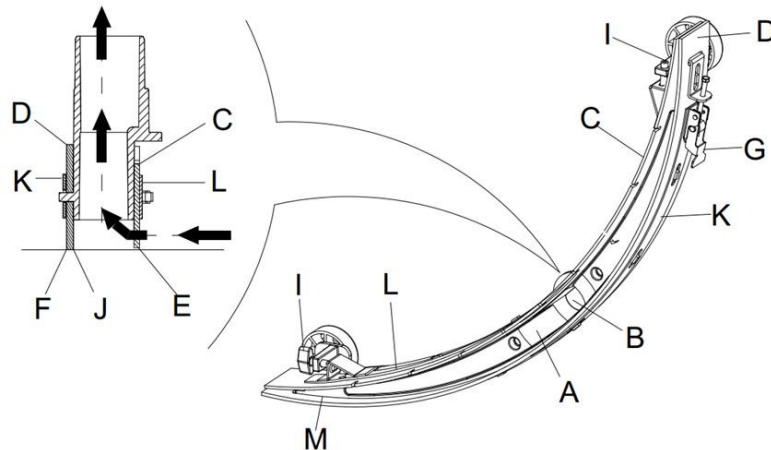

Figure 10
2. Press the power switch (38) to the “O” position to turn off the machine.
3. Unscrew the squeegee knobs (16); remove the vacuum hose from the squeegee assembly & remove squeegee.
4. Use the squeegee lift handle (14) to lift the squeegee mount bracket.
5. Using a damp towel, clean the squeegee (Figure 10). Clean in particular the groove (A, Figure 10) and the dirt and fragments on the vacuum tube. Check if the front squeegee blade (C) and the rear squeegee blade (D) are intact, and if there are broken edges and cracks. Replace them if necessary (refer to the steps in the following section).
1. Following the methods related in the previous section clean the squeegee (Figure 10)
2. Check the edge (E, Figure 10) of the front squeegee blade and the edge (F) of the rear squeegee blade (D). On the whole length, they should be level. Otherwise, adjust their heights through the following procedure.
- Loosen the clip (G) to let the rear squeegee blade (D) separate from the bracket (M) for the adjustment of the position of the squeegee. After the adjustment, lock the clip once again.
- Loosen the screw on the handle (I) to adjust the front squeegee blade (C); tighten the handle screw after adjustment.
3. Check if the front squeegee blade (C) and the rear squeegee blade (D) is intact and if there are broken edges and cracks. If damage is found, change them according in the following way. If the front edge of the rear squeegee blade (J) has worn, it can be flipped upside down and re-installed (the top edge is required to be intact). If the top edge is also worn, change it by following the procedure below:
- Loosen the clip (G) to let the pressure blade separate from the bracket (M), take off the clip bar (K), and then change or turn the rear squeegee blade (D) upside down. Re-install the rear squeegee blade in the reverse order of taking it off.
- Loosen the handle screw (I) and take off the front clip bar (L), and then change the front squeegee (C).